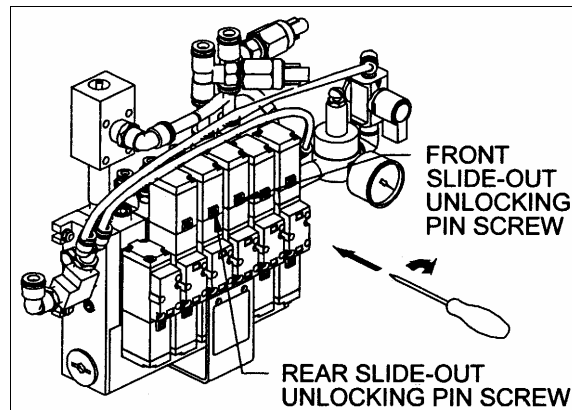

FIGURE 6
2. Identify the proper pneumatic valve controlling the locking pins of the problem slide-out (refer to figure 6).